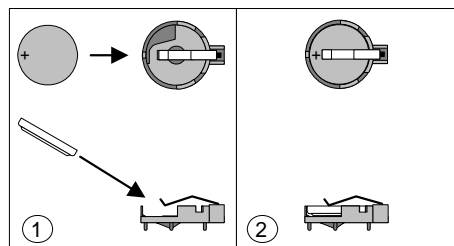

Figure 45: Removing the Battery
5. Figure 1 shows the battery location. Gently pry the battery free from its socket, taking care to note the "+" and "-" orientation of the battery (Figure 45).